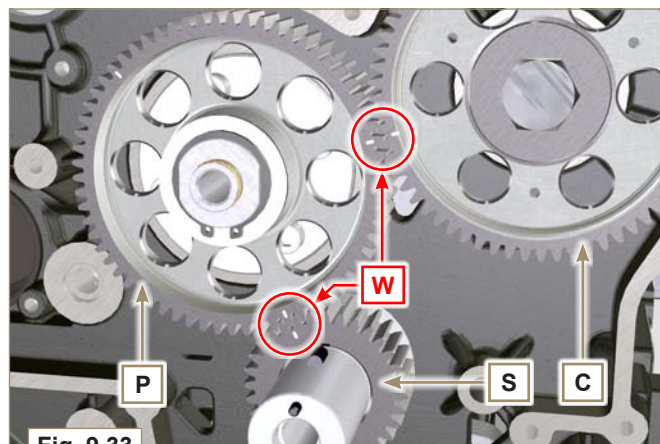

Fig. 9.33
- 8 - Position the gear **P** on the pin **H** observing all the marks **W** of the gears **C** and **S**, (Fig. 9.33).
NOTE: During the detection phase of the TDC, check that cylinder N° 1 is in compression phase (align the notches **W** as in Fig. 9.33).